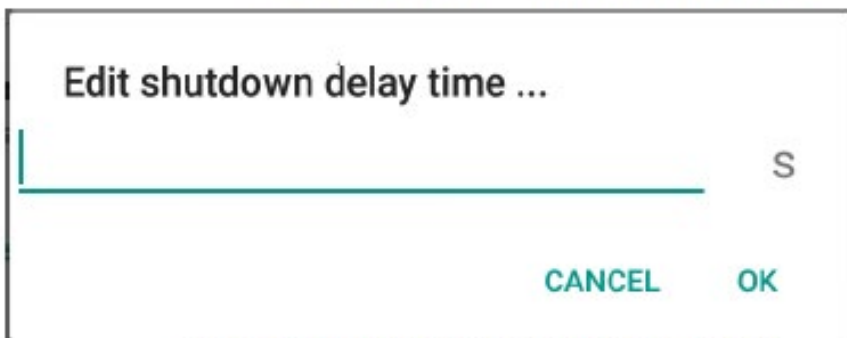

Figure 2-7 Shut down delay time setting dialog box
6. After clicking, the dialog box shown in Figure 2-7 to set the delay time for shutdown after ACC is disconnected.